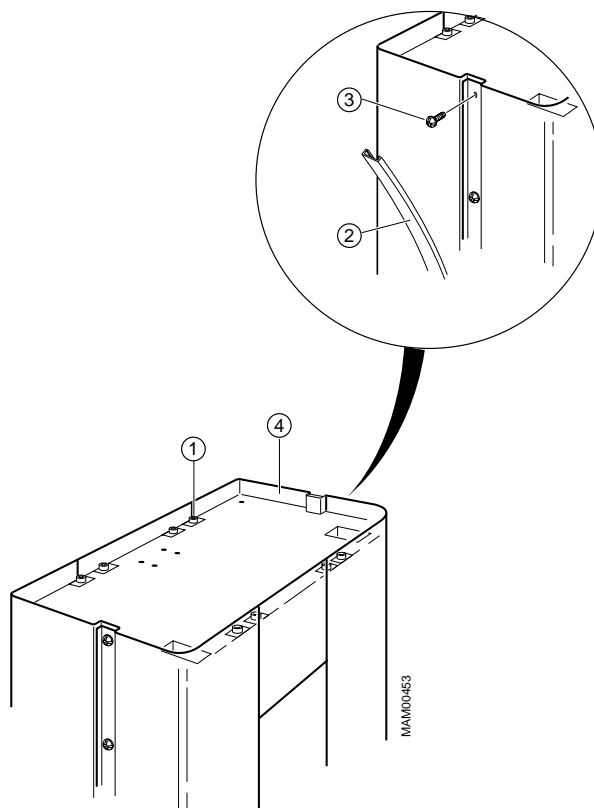

Fig. 2 Removal of right side cover
⇒ **Stand, I 9** on CPU board D801, see Wiring diagram, (Stand). To have access to CPU board D801, the right side cover (or the complete back cover) should be removed. Loosen the screw (pos. 1 / Fig. 2) at the top of the stand. Pry loose the plastic strip (pos. 2 / Fig. 2), using a screwdriver or similar tool. Loosen the screws (pos. 3 / Fig. 2) now accessible and remove the cover (pos. 4 / Fig. 2).